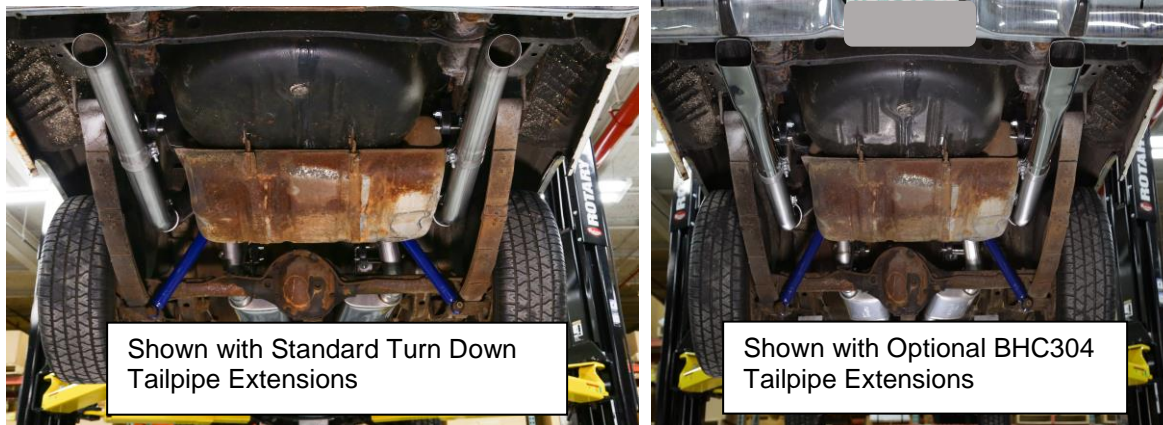

Figure 11
20. Install a clamp onto the expanded end of the turn down tailpipe extension or optional BHC304 stainless steel tip extension, install the left and right tip extensions on to the adapter pipe and tighten the clamp to allow for adjustment (**Figure 11**).